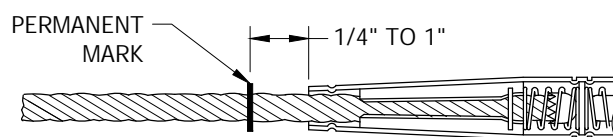

FIGURE 5
- D. THE CONDUCTOR MUST BE INSERTED INTO SLEEVE THE FULL LENGTH INDICATED BY THE PERMANENT MARK. THIS LENGTH SHALL BE MARKED ON THE CONDUCTOR, AND THE CONDUCTOR SHALL BE HELD AT THIS POINT DURING INSERTION. MAKE SURE THAT THE SECTION OF CONDUCTOR TO BE INSERTED INTO THE SLEEVE IS STRAIGHT. AS TENSION IS APPLIED THE CONDUCTOR WILL MOVE APPROXIMATELY 1/4" TO 1", DEPENDING ON CONDUCTOR AND SPLICE SIZE, TOWARD THE OPEN END OF THE SPLICE AS THE JAWS MOVE TOWARD A "SET" POSITION. SEE (FIGURE 5). A CONDUCTOR THAT IS ON THE SMALL END OF THE CONDUCTOR RANGE WILL MOVE MORE THAN A LARGER CONDUCTOR IN THE SAME SPLICE. THE AUTOMATIC SLEEVES HAVE AN INTERNAL PILOT CUP WHICH CONFINES THE STRANDS DURING INSERTION. THE CONDUCTOR MUST NOT BE TWISTED OR BENT DURING THE INSERTION. TWISTING TENDS TO SEPARATE THE STRANDS, CAUSING THEM TO INTERFERE WITH JAW OPERATION.